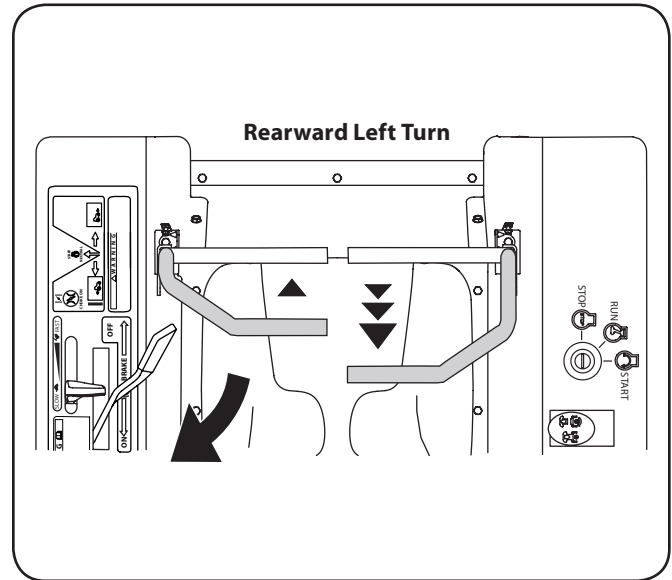

Figure 1-6
1. To turn to the left while traveling in reverse, move the left drive control lever forward of the right lever. See Figure 1-6.